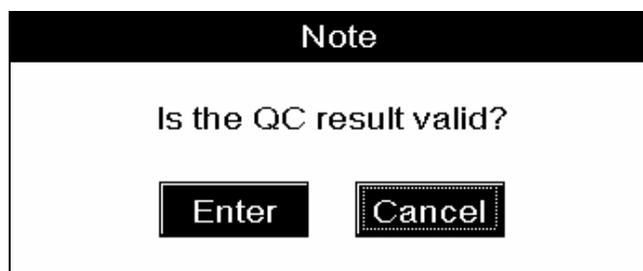

Figure8-39 A message to confirm the validity of the QC run
4. When the analysis is finished, the sample probe is replaced, the analysis result is displayed on the screen, and a message box pops up to confirm the validity of the analysis results, as Figure8-39 shows;